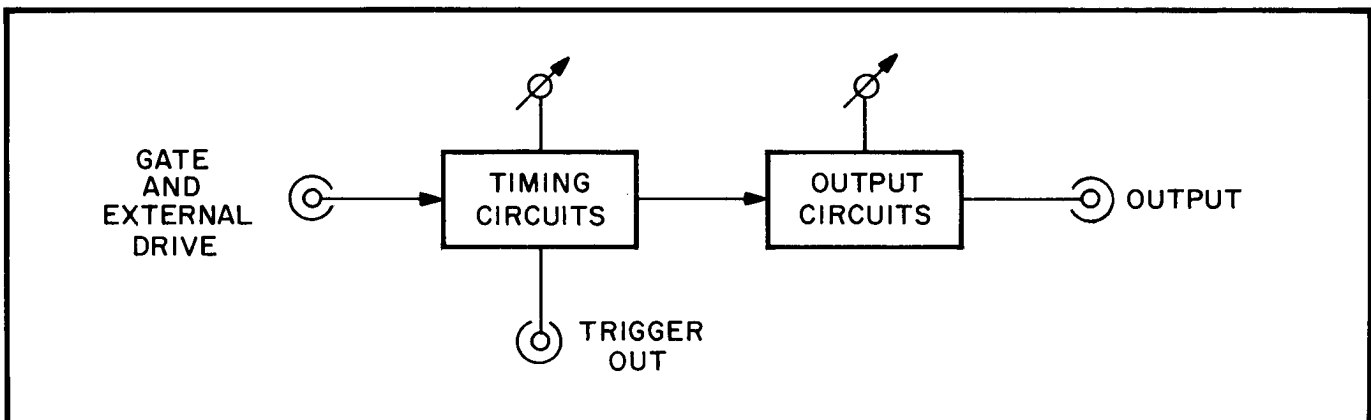

Figure 3-1 Basic Block Diagram
a. **General.** The Model 132A is composed of two general circuit groups as shown in Figure 3-1: the timing circuits which affect the signal time parameters, and the output circuits which affect the signal voltage/current parameters. Each circuit group has its own controls.